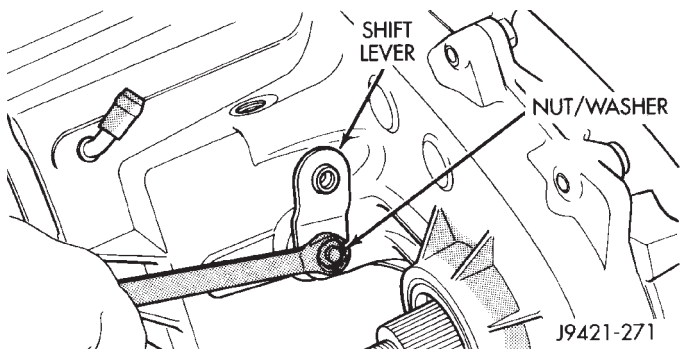

Fig. 14 Shift Lever Removal
- (5) Remove nut and washer that retain shift lever to sector shaft. Then remove shift lever from shaft (Fig. 14).